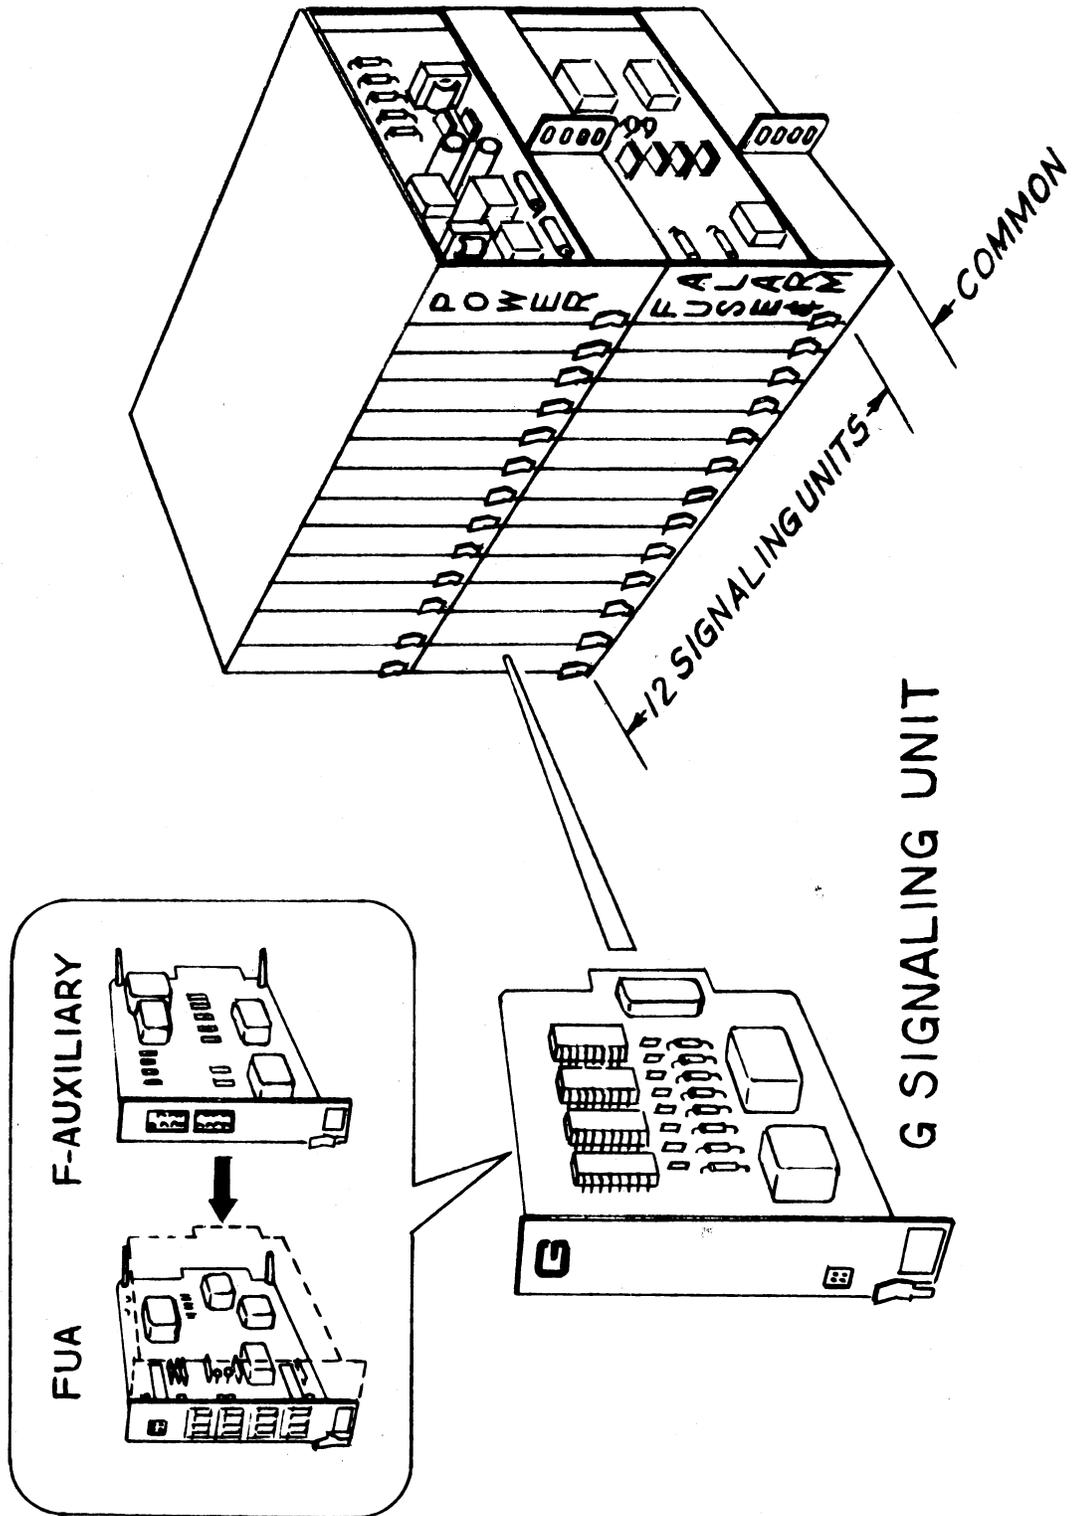

Fig. 2 — G-Signaling Modular Design
1.05 Common Module Equipment: The common equipment consists of two double width plug-in units which occupy the right side of the G-signaling module. The upper right unit is the 285A Power Unit and the lower right is the J99395YA Fuse and Alarm Unit. See Fig. 2.